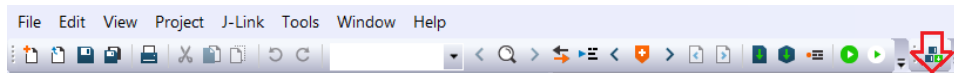

Figure 27. Pack Installer Icon
2. Navigate to **Project > CMSIS Pack Manager**, or click on the icon shown in Figure 27.